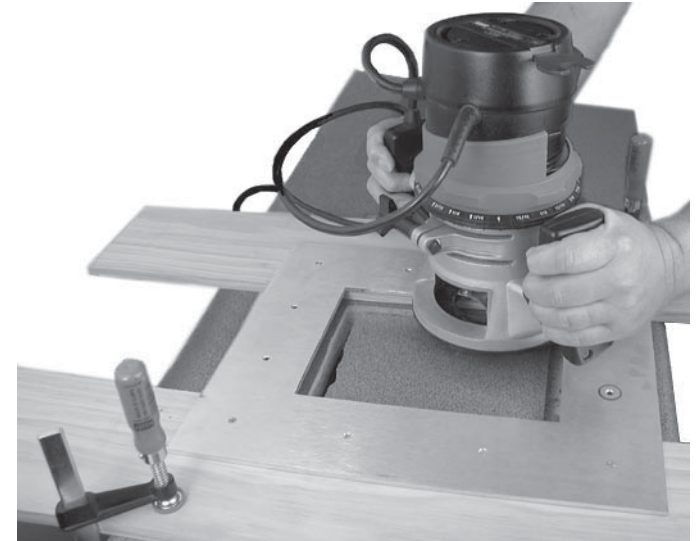

Figure 2-2 — Cutting the opening with a router (example)
3. Once the template assembly is positioned properly, secure the assembly to the table with clamps (figure 2-2).
4. Using a router with a 5/8" (or 16 mm) outside diameter guide bushing and a 1/2" (or 12 mm or 12.7 mm) diameter straight router bit, carefully cut the opening in the table surface (figure 2-2).